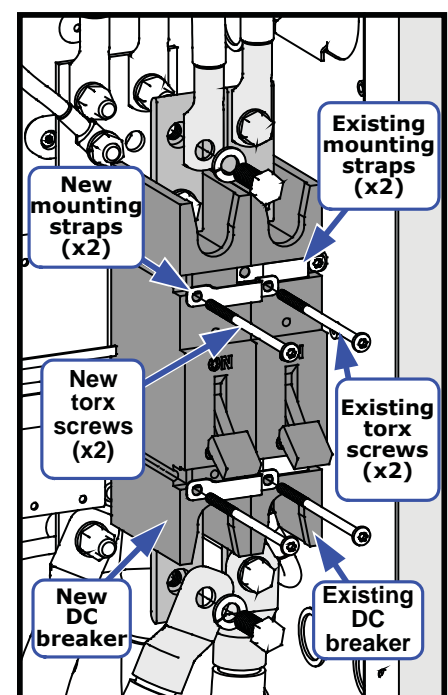

Fig. 3-7, Removing Breaker Screws **Fig. 3-8, Attaching the New DC Breaker**
1. Using a T25 screwdriver, remove two of the #10-32 x 3½" Torx screws that secure the existing DC breaker to the mounting plate – the removed screws should be the two that are adjacent to where the new DC breaker will be mounted (see Figure 3-7).